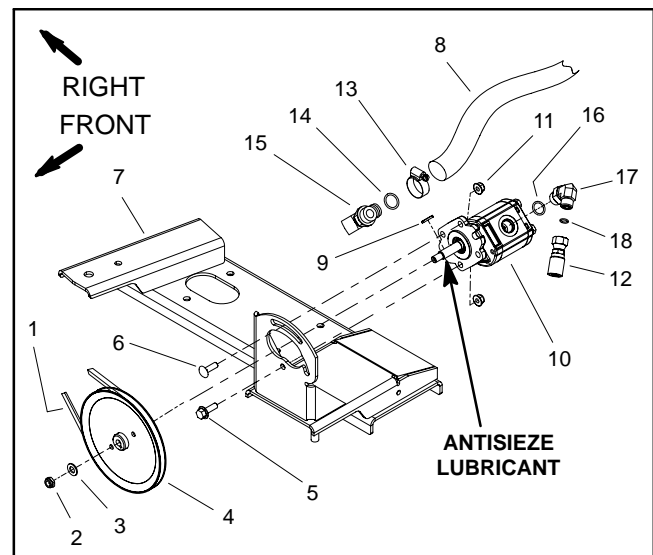

Figure 26
Removal (Fig. 26)
5. Remove gear pump from mount using Figure 26 as a guide.
Installation (Fig. 26)
2. Install gear pump to mount using Figure 26 as a guide and using the following instructions: